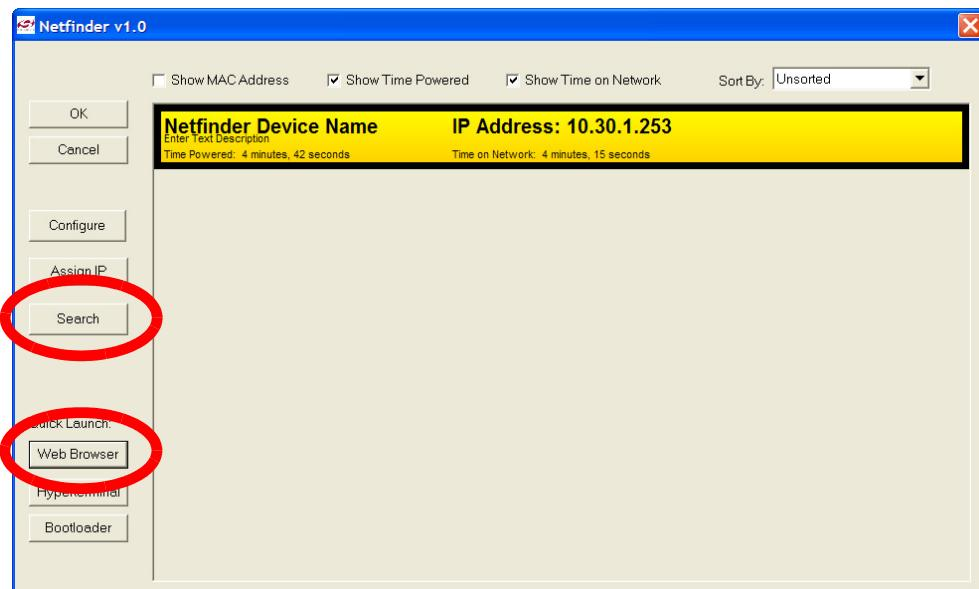

Figure 23. Web Browser Quick Launch Button In Static IP Address Mode
8. Select the device by **clicking inside the yellow area** and pressing the **Web Browser** quick launch button as shown in Figure 23.